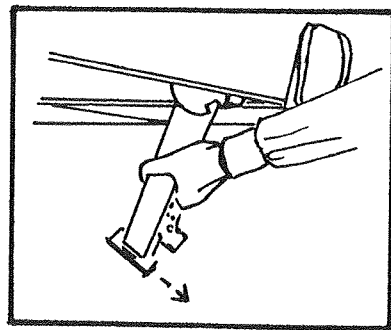

FIGURE 6
13. There are four stabilizer jacks on all trailers with the exception of the Columbia™, model. One jack is located in each corner of the trailer. The Columbia™ trailer has two stabilizer jacks, one located in each rear corner. To release the jacks from the locked travel position, reach under the corner and firmly grasp the stabilizer jack, push it toward the center of the trailer (approximately 1/2"), and pull down until the stabilizer jack locks into place in the lowered position. See Figure 6.